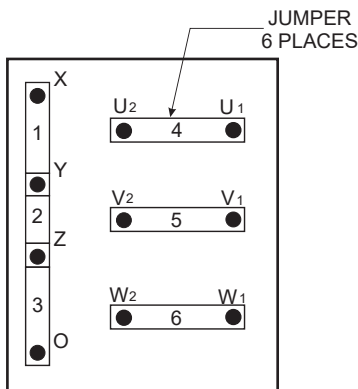

Figure 15. Voltage Change-Over Board
Various output voltages can be obtained using the UVWO output terminal lugs. The voltages at the terminals are dependent on the placement of the jumper plates (6) on the **voltage change-over board** (Figure 15) and the adjustment of the **voltage regulator**.
1. Jumper the voltage change-over board for 240-volt operation as shown in Figure 15.
1. Make sure the voltage change-over board is jumpered for 240-volt operation as shown in Figure 15.